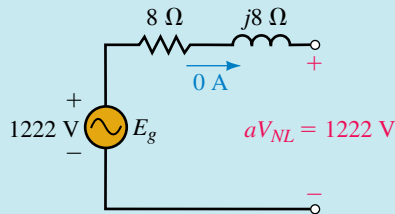

FIGURE 24-45 No-load equivalent: $aV_{NL} = E_g$.
- c. Now consider the no-load condition (Figure 24-45). Let V_{NL} be the no-load voltage. As indicated, $aV_{NL} = 1222 \text{ V}$. Thus, $V_{NL} = 1222/a = 1222/10 = 122.2$ volts and